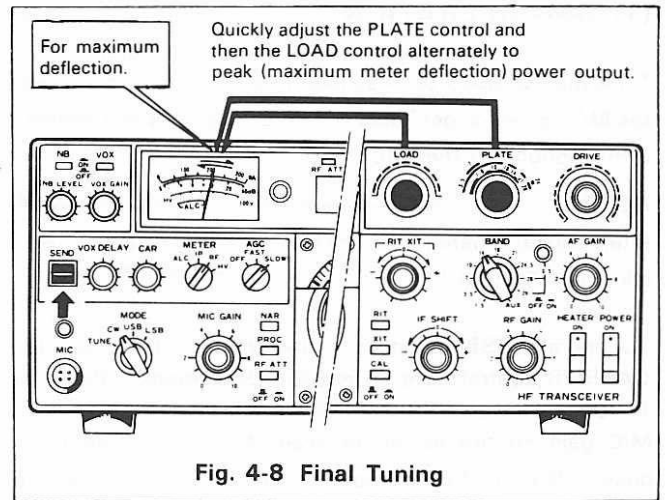

Fig. 4-8 Final Tuning
- Place the meter switch to RF. Close the key and repeat the LOAD for maximum RF output. You may at your option also redip the PLATE for maximum RF output. Fig. 4-8 Open the key. You are tuned up for CW operation. If necessary, adjust the RF METER control on the rear panel to bring the output reading to about 2/3 scale. This is a meter adjustment, not an output adjustment.